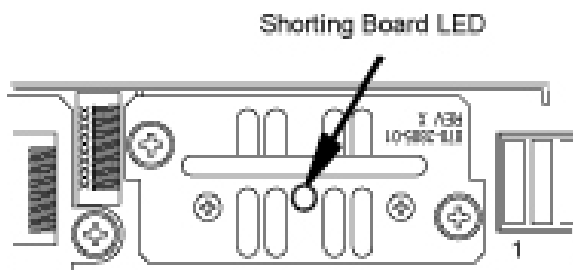

Figure 40: Shorting Board Faceplate, Maintenance Mode
2. Locate two screws securing the Shorting Board in its slot. Note the orientation of the Shorting Board LED (Figure 40: Shorting Board Faceplate, Maintenance Mode). Turn the screws at each corner of the board to the left until they disengage.